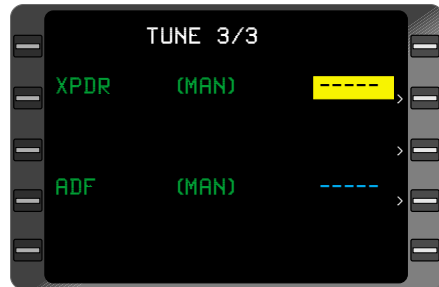

Figure 3-152
- Line Select Key - DEPRESS to position the cursor over the desired code or frequency field. (Figure 3-152)